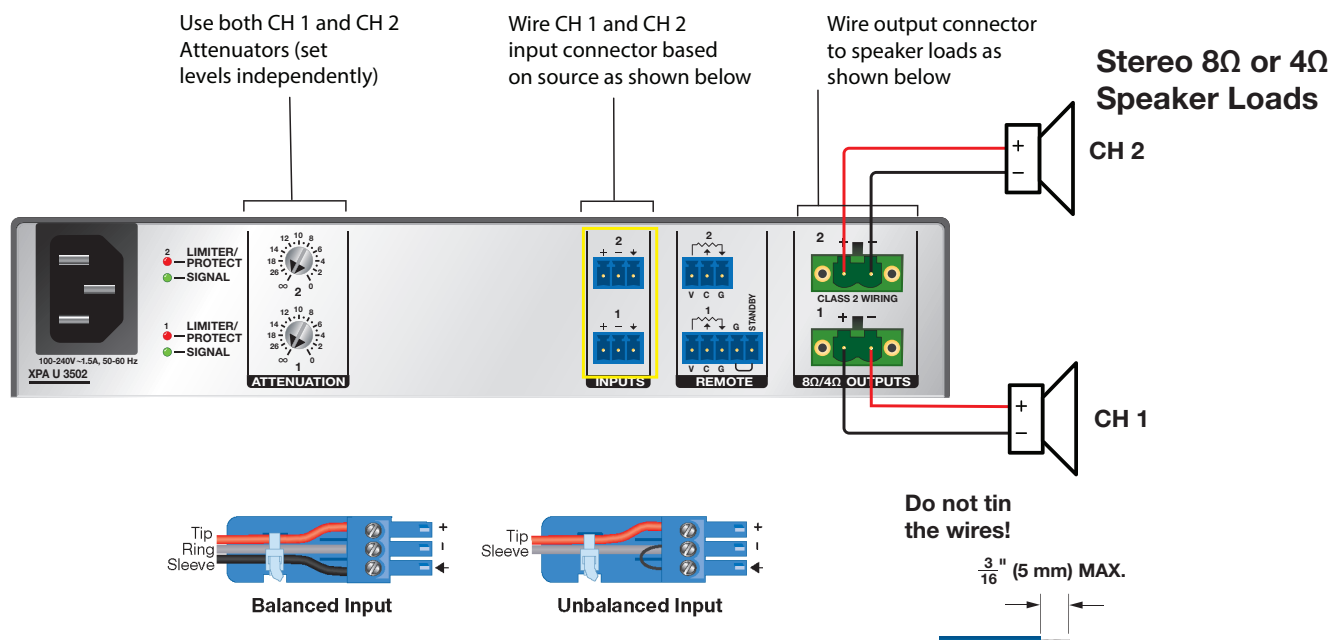

Figure 3. XPA 3502 Output Configuration
- Wire the source output to the Line Input 3.5mm captive screw port as shown below. Figure 3 shows both balanced and unbalanced inputs.